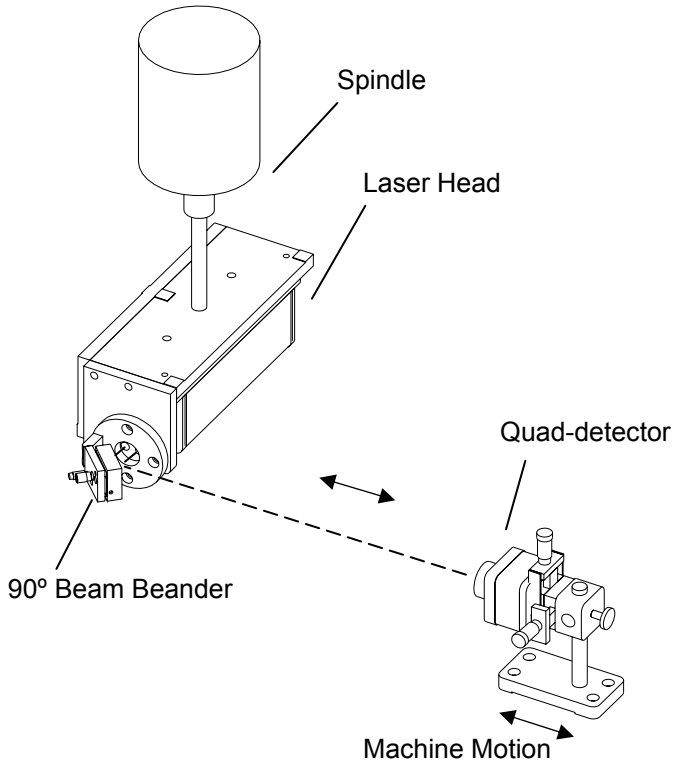

FIG. 10-10 SPINDLE MOUNT
3. The spindle mount as shown in Fig. 10-10 is 'more convenient' when only X-axis and Y-axis straightness need to be measured.